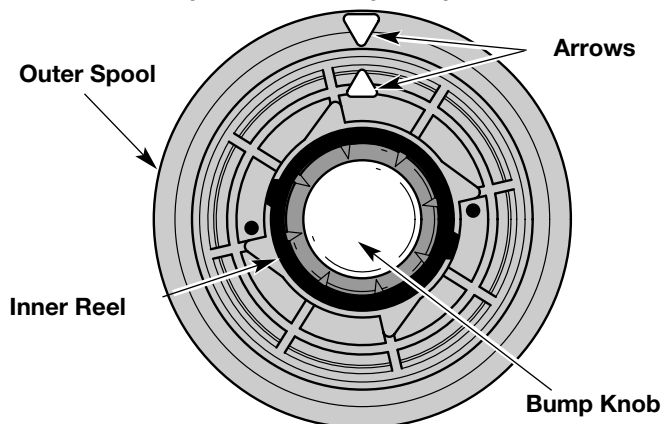

Fig. 14
2. Hold the outer spool and turn the inner reel counterclockwise to line up the arrows on the outer spool and inner reel (Fig. 14).